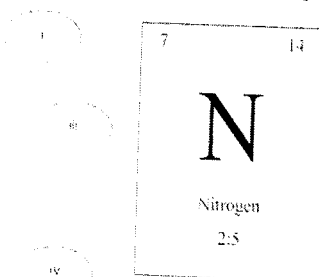

Figure 1(b)/Rajah 1(b)
b) Identify the element in the Periodic Table as shown in Figure 1(b):